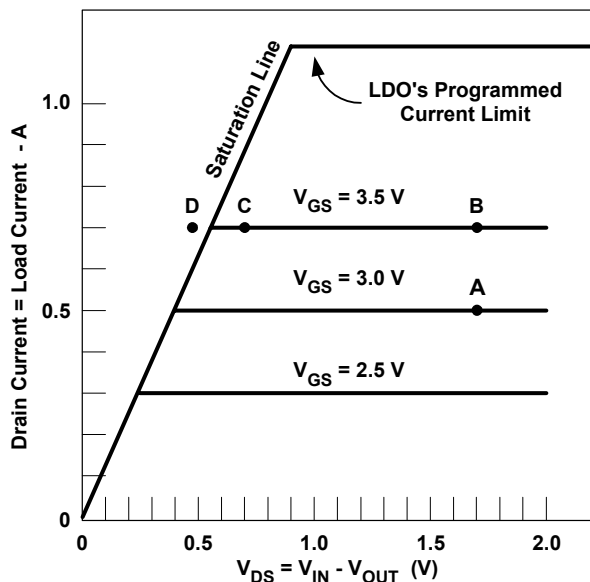
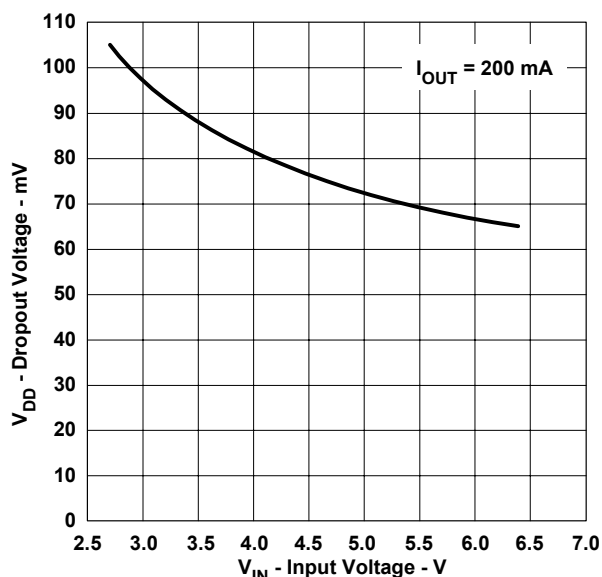

Fig. 3 Operating region of an LDO's N-channel pass element.
Fig. 7. TPS79901 dropout voltage vs. input voltage.
Fig. 3 shows the operating region of an LDO's N-channel pass element. The range of operation is limited in the x-axis by the saturation region of the pass element, and limited in the y-axis by either the pass element's saturation region or by the IC's programmed current limit. In order to operate properly and maintain a regulated output voltage, the pass element must operate within the boundaries set by these two lines. In the example, the drain-to-source voltage of 1.7 V and the drain current of 500 mA set the operating point at "A." At this point, the LDO sets the pass element's gate-to-source voltage at 3 V to maintain regulation. A line drawn through the origin and point "A" represents the 3.4- Ω resistance.
Consider a change to the static conditions in the example: if the load resistance decreases (an increase in load current), the LDO must react to maintain regulation. If it doesn't react, the LDO has a higher voltage drop across the pass element which causes the output voltage to fall out of regulation. The LDO must decrease the pass element's resistance by increasing the gate-to-source voltage on the FET. When the gate-to-source voltage increases, the operating point moves upward, assuming a fixed input and output voltage. If $I_{OUT}=700$ mA, the error amplifier increases the pass element's gate-to-source voltage to 3.5 V to maintain regulation. This corresponds to "B." A line drawn through the origin and point "B" now represents a pass element resistance of 2.4Ω . Fig. 3 shows that with a drain-to-source voltage of 1.7 V, the LDO's maximum current draw is only limited by the maximum programmed current limit.
LDO datasheets can only specify the IC's dropout voltage under a limited number of operating conditions. Few datasheets provide a graph like that shown in Fig. 3. For all other conditions, the user must interpolate the data to determine the dropout voltage at a specific output current. This task is surprisingly easy. As an example, consider an application that requires $V_{OUT} = 3$ V at 170 mA with an input voltage that varies between 3.15 V and 3.45 V. The designer has chosen a TPS79330 LDO and needs to know if it can be ensured that the LDO doesn't enter dropout.
Table 1 shows the datasheet's ensured dropout voltage from the parametric table. The datasheet shows that the maximum dropout voltage (ensured over all temperatures) for a 3.0 V output at 200 mA is 200 mV. The minimum input voltage of 3.15 V for this application requires the effective dropout voltage be less than 150 mV at 200 mA. For this regulator, the actual dropout is less than 200 mV since the current is less than 200 mA, but the datasheet does not specify the dropout voltage at 170 mA. When operating in dropout, the LDO pass element is at its minimum $R_{DS(on)}$ which is equivalent to operating on the saturation line like the one shown in Fig. 3. This minimum resistance is calculated by dividing the dropout voltage by the test current. The TPS79330 pass element minimum $R_{DS(on)}$ is shown in Equation (3).
Another factor affecting an LDO's minimum dropout resistance is the input voltage to the device. This is a second-order effect, but is worth noting. The higher output voltage options require a higher input voltage, which allows the device to drive the pass element harder, and in turn provides a slightly lower resistance. Most discrete FET datasheets show a change in $R_{DS(on)}$ versus gate-to-source voltage. Some LDO datasheets provide a graph (Fig. 7) of dropout versus input voltage, but this is rare. Even without a graph, this information is evident from the dropout data shown in Fig. 4. The 3.0-V option (TPS79330) in Fig. 3 has a 200-mV dropout voltage while the 4.75-V option (TPS793475) has a 125-mV dropout voltage. This is a 37 % reduction in dropout voltage.